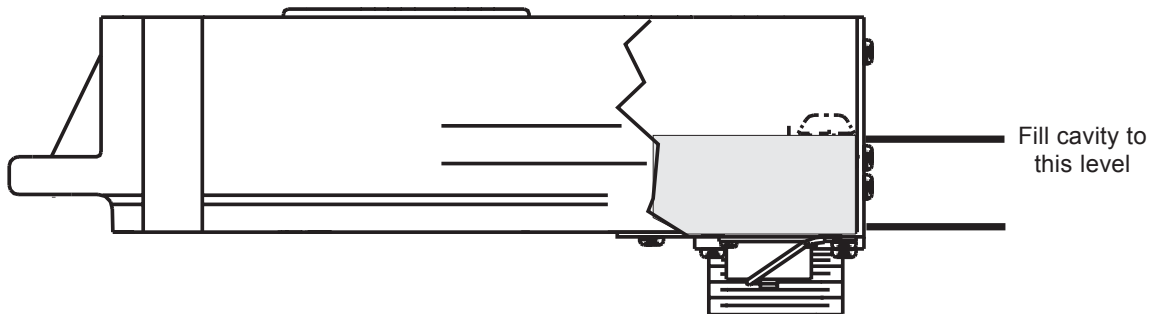

Figure 4—Fill Level of Control Unit
- c. Pour mixture into cavity until it reaches the bottom of the screws in the terminal strip. See Figure 4.